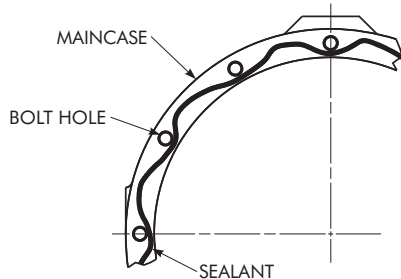

FIGURE 2
- b. Once the solvent has evaporated, apply sealing compound (Loctite® 515™ gasket eliminator or equivalent) to either the output hub or maincase sealing surfaces. Note, maintain a full film of sealant around the seal surface inboard of the bolt holes; reference Figure 2.